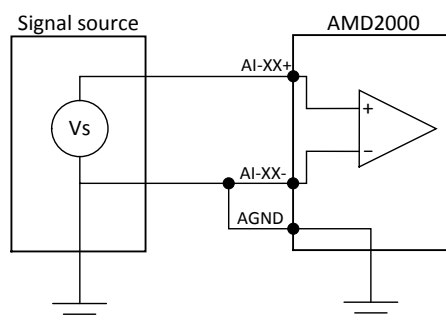

Figure 7-3 Typical Example of Ground Referenced Single-Ended Connection
**Note:** In the scenario presented in Figure 7-3, any potential difference (in many cases this is 50/60Hz powerline noise) between signal source ground and measurement system ground will be picked up into the measurement result.